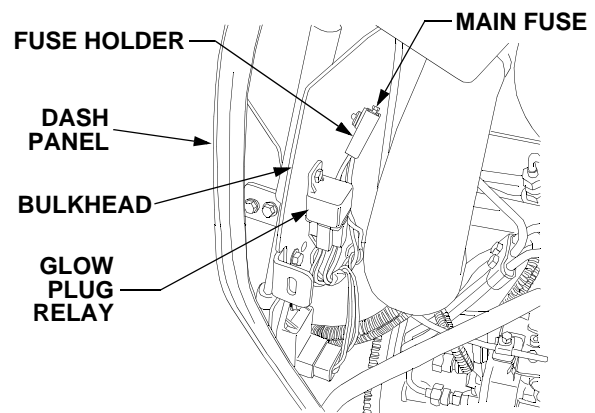

Figure 39
- Locate the fuse holder on the front of the bulkhead, just inside the right side of the dash panel. See Figure 39.